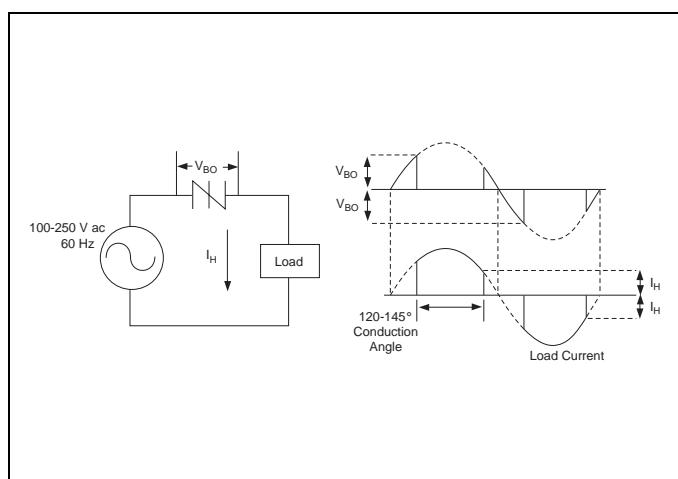

Figure E9.14 Basic Sidac Circuit
(7) See Figure E9.14 for clarification of sidac operation.
(8) For best sidac operation, the load impedance should be near or less than switching resistance.
(9) See package outlines for lead form configurations. When ordering special lead forming, add type number as suffix to part number.
[Refer to Figure E9.14 for Basic Sidac Circuit]